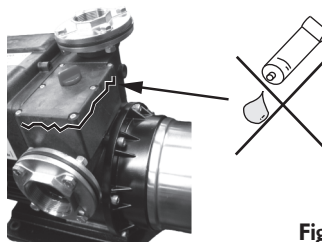

Fig. 3
7. Regular maintenance requires to open the prime cover in order to access the check valve. DO NOT apply any bonded material (such as silicon, glue etc) to seal the chamber cover ( See Fig 3).